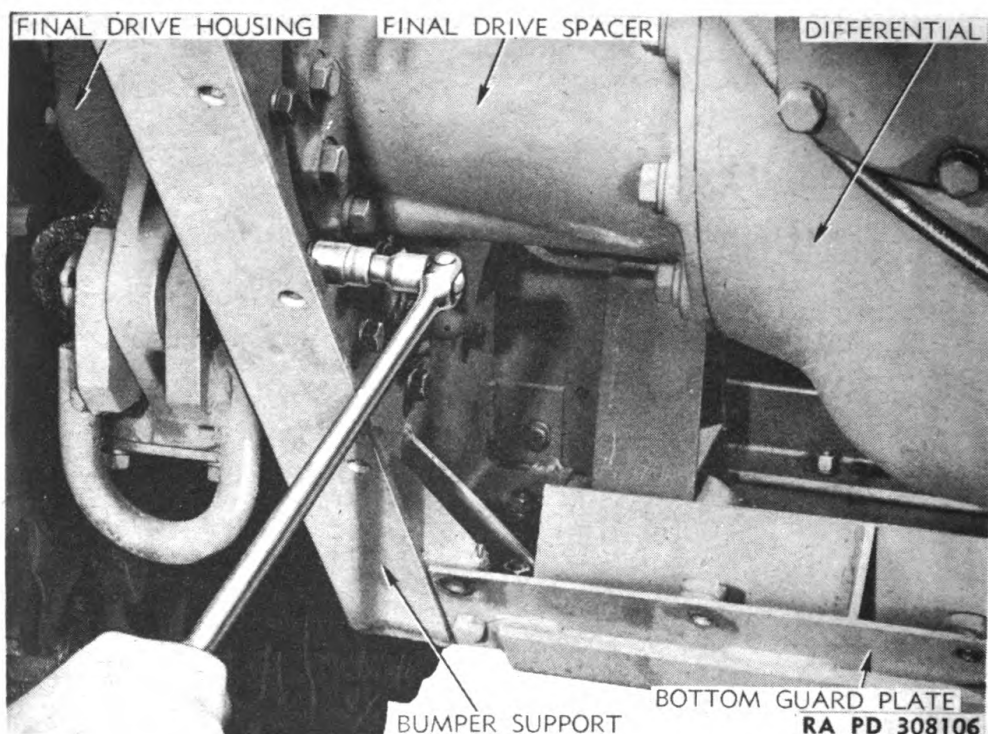
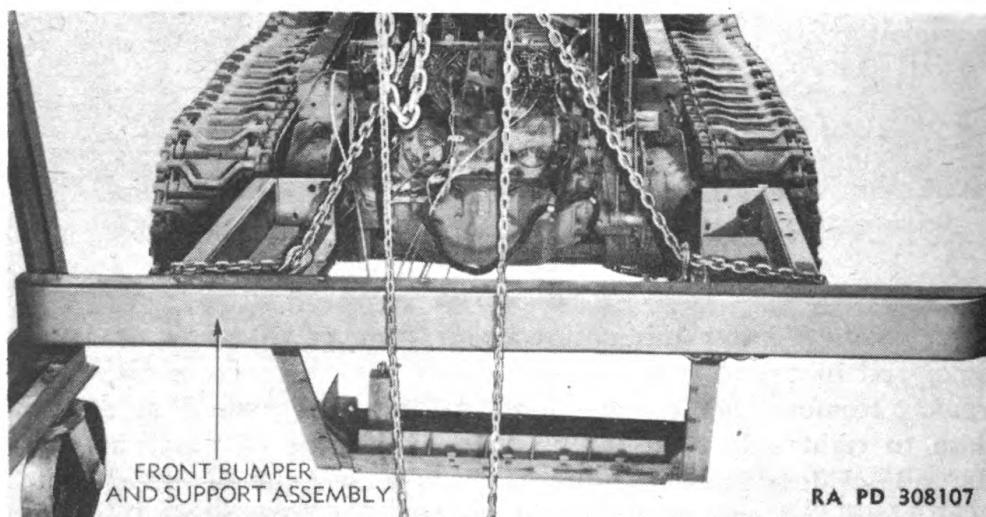

Figure 6 — Disconnecting Bumper Supports From Final Drive Housing
Figure 7 — Front Bumper and Support Assembly Removed
supports and front hull posts by working through opening made by removal of front guard plate. Remove cap screws attaching sides of bumper supports to final drive housings (fig. 6). Attach hoist with chain (fig. 7) to support weight of assembly, then remove the seven bolts holding bottom guard plate to bottom of hull and remove the bumper and bumper support assembly from tractor.
c. Install Front Bumper and Support Assembly. Lift assembly with chain hoist and maneuver it into position over final drive spacers (fig. 7), at same time entering winch clutch rod through hole in bumper support. Install three bolts to attach each bumper support
to upper end of front post of hull. Do not tighten these bolts as all bolts and cap screws must be installed before any are tightened. Use lock washers on all bolts and cap screws. Install seven bolts to attach bottom plate to front bottom rail of hull. These seven bolts are to be installed from the bottom with nuts and lock washers inside the hull. Install cap screws to attach bumper supports to final drive housings (fig. 6). Install two cap screws in bottom of supports and bottom of front hull posts. Tighten all bolts and remove chain hoist. Install clutch pedal stop with two bolts with lock washers. Connect winch control rod to lever on left fender with yoke pin and cotter pin.